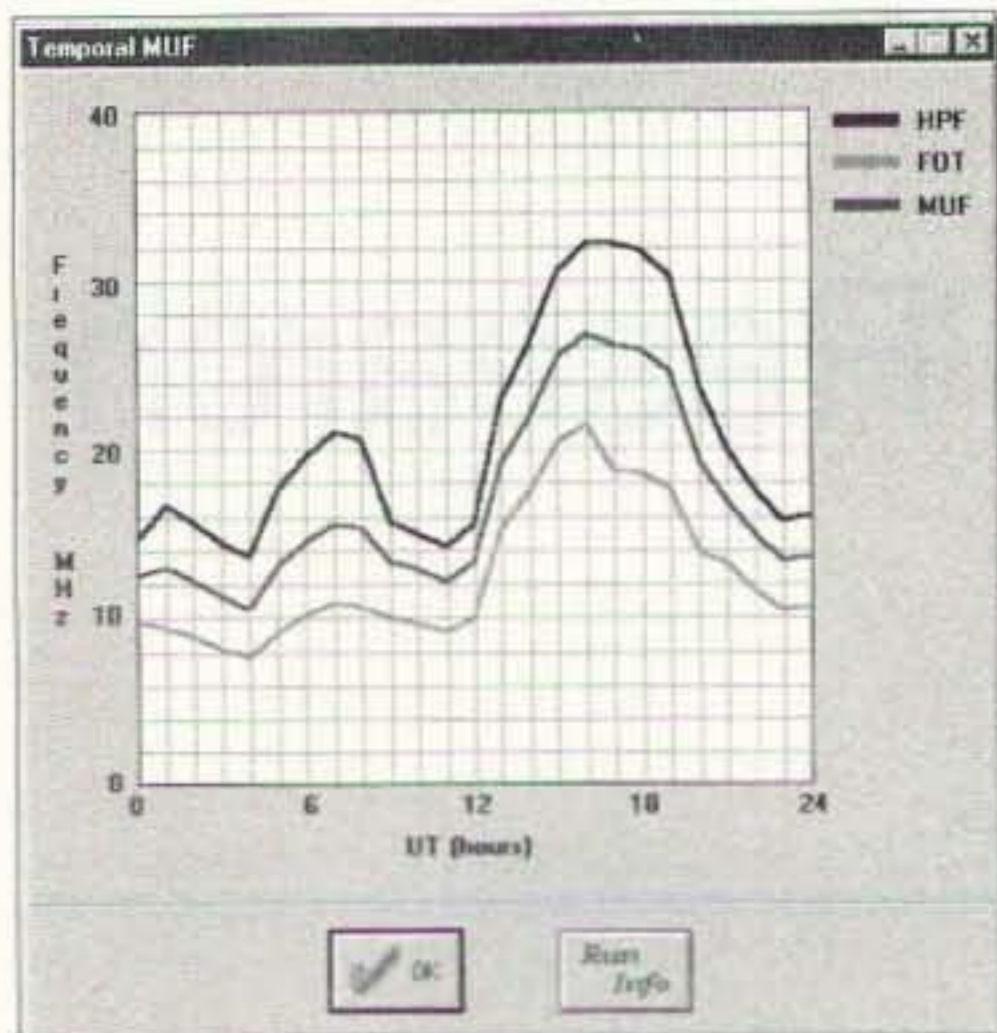

Fig. 2. Highest Possible Frequency, Maximum Usable Frequency and Optimum Traffic Frequency plotted between transmitter and receiver for a 24-hour period.
- Temporal MUF, which consists of a 24-hour graph plotted for a path between the transmitting station and receiving station with frequency versus UTC time for Highest Possible Frequency, Maximum Usable Frequency or Optimum Traffic Frequency. (See Fig. 2.)